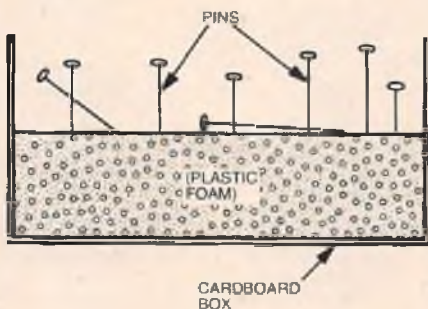

FIGURE 2
**NUMBER 2:** For more years than I can remember, I have used a convenient pin retainer in the form of a small cardboard box, 122mm long x 82mm wide x 45mm high, with a piece of synthetic foam about 20mm thick inserted therein. Even if a pin becomes unstuck, as it often will, the box keeps it from scattering. See Figure 2.